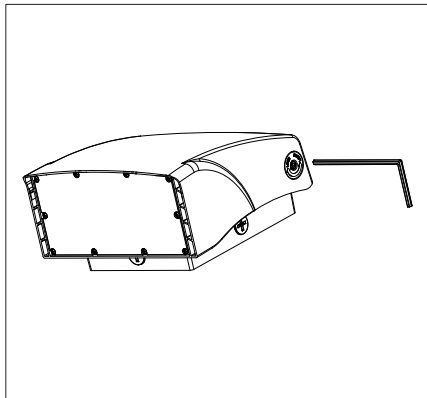
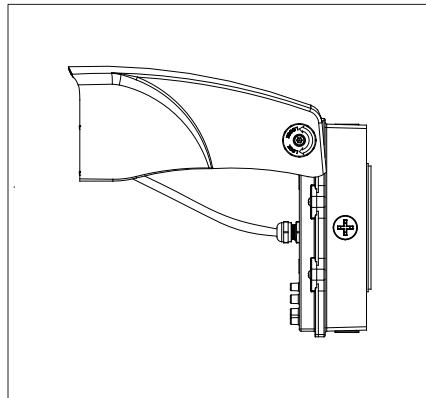

Figure 1
Figure 2
STEP 1: Loosen the Screws on the side of the wall pack with an allen wrench and rotate the wall pack to 90° (Figure 1 & Figure 2)